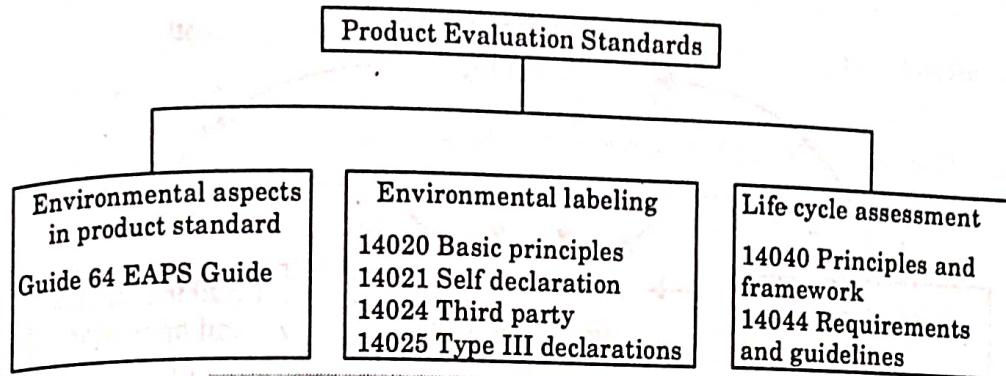

**Fig. 5.15.1.** Organizational evaluation standards.
1. These standards as shown in Fig. 5.15.1 and consist of three categories : Environmental Management System (EMS), Environmental Auditing (EA), and Environmental Performance Evaluation (EPE).